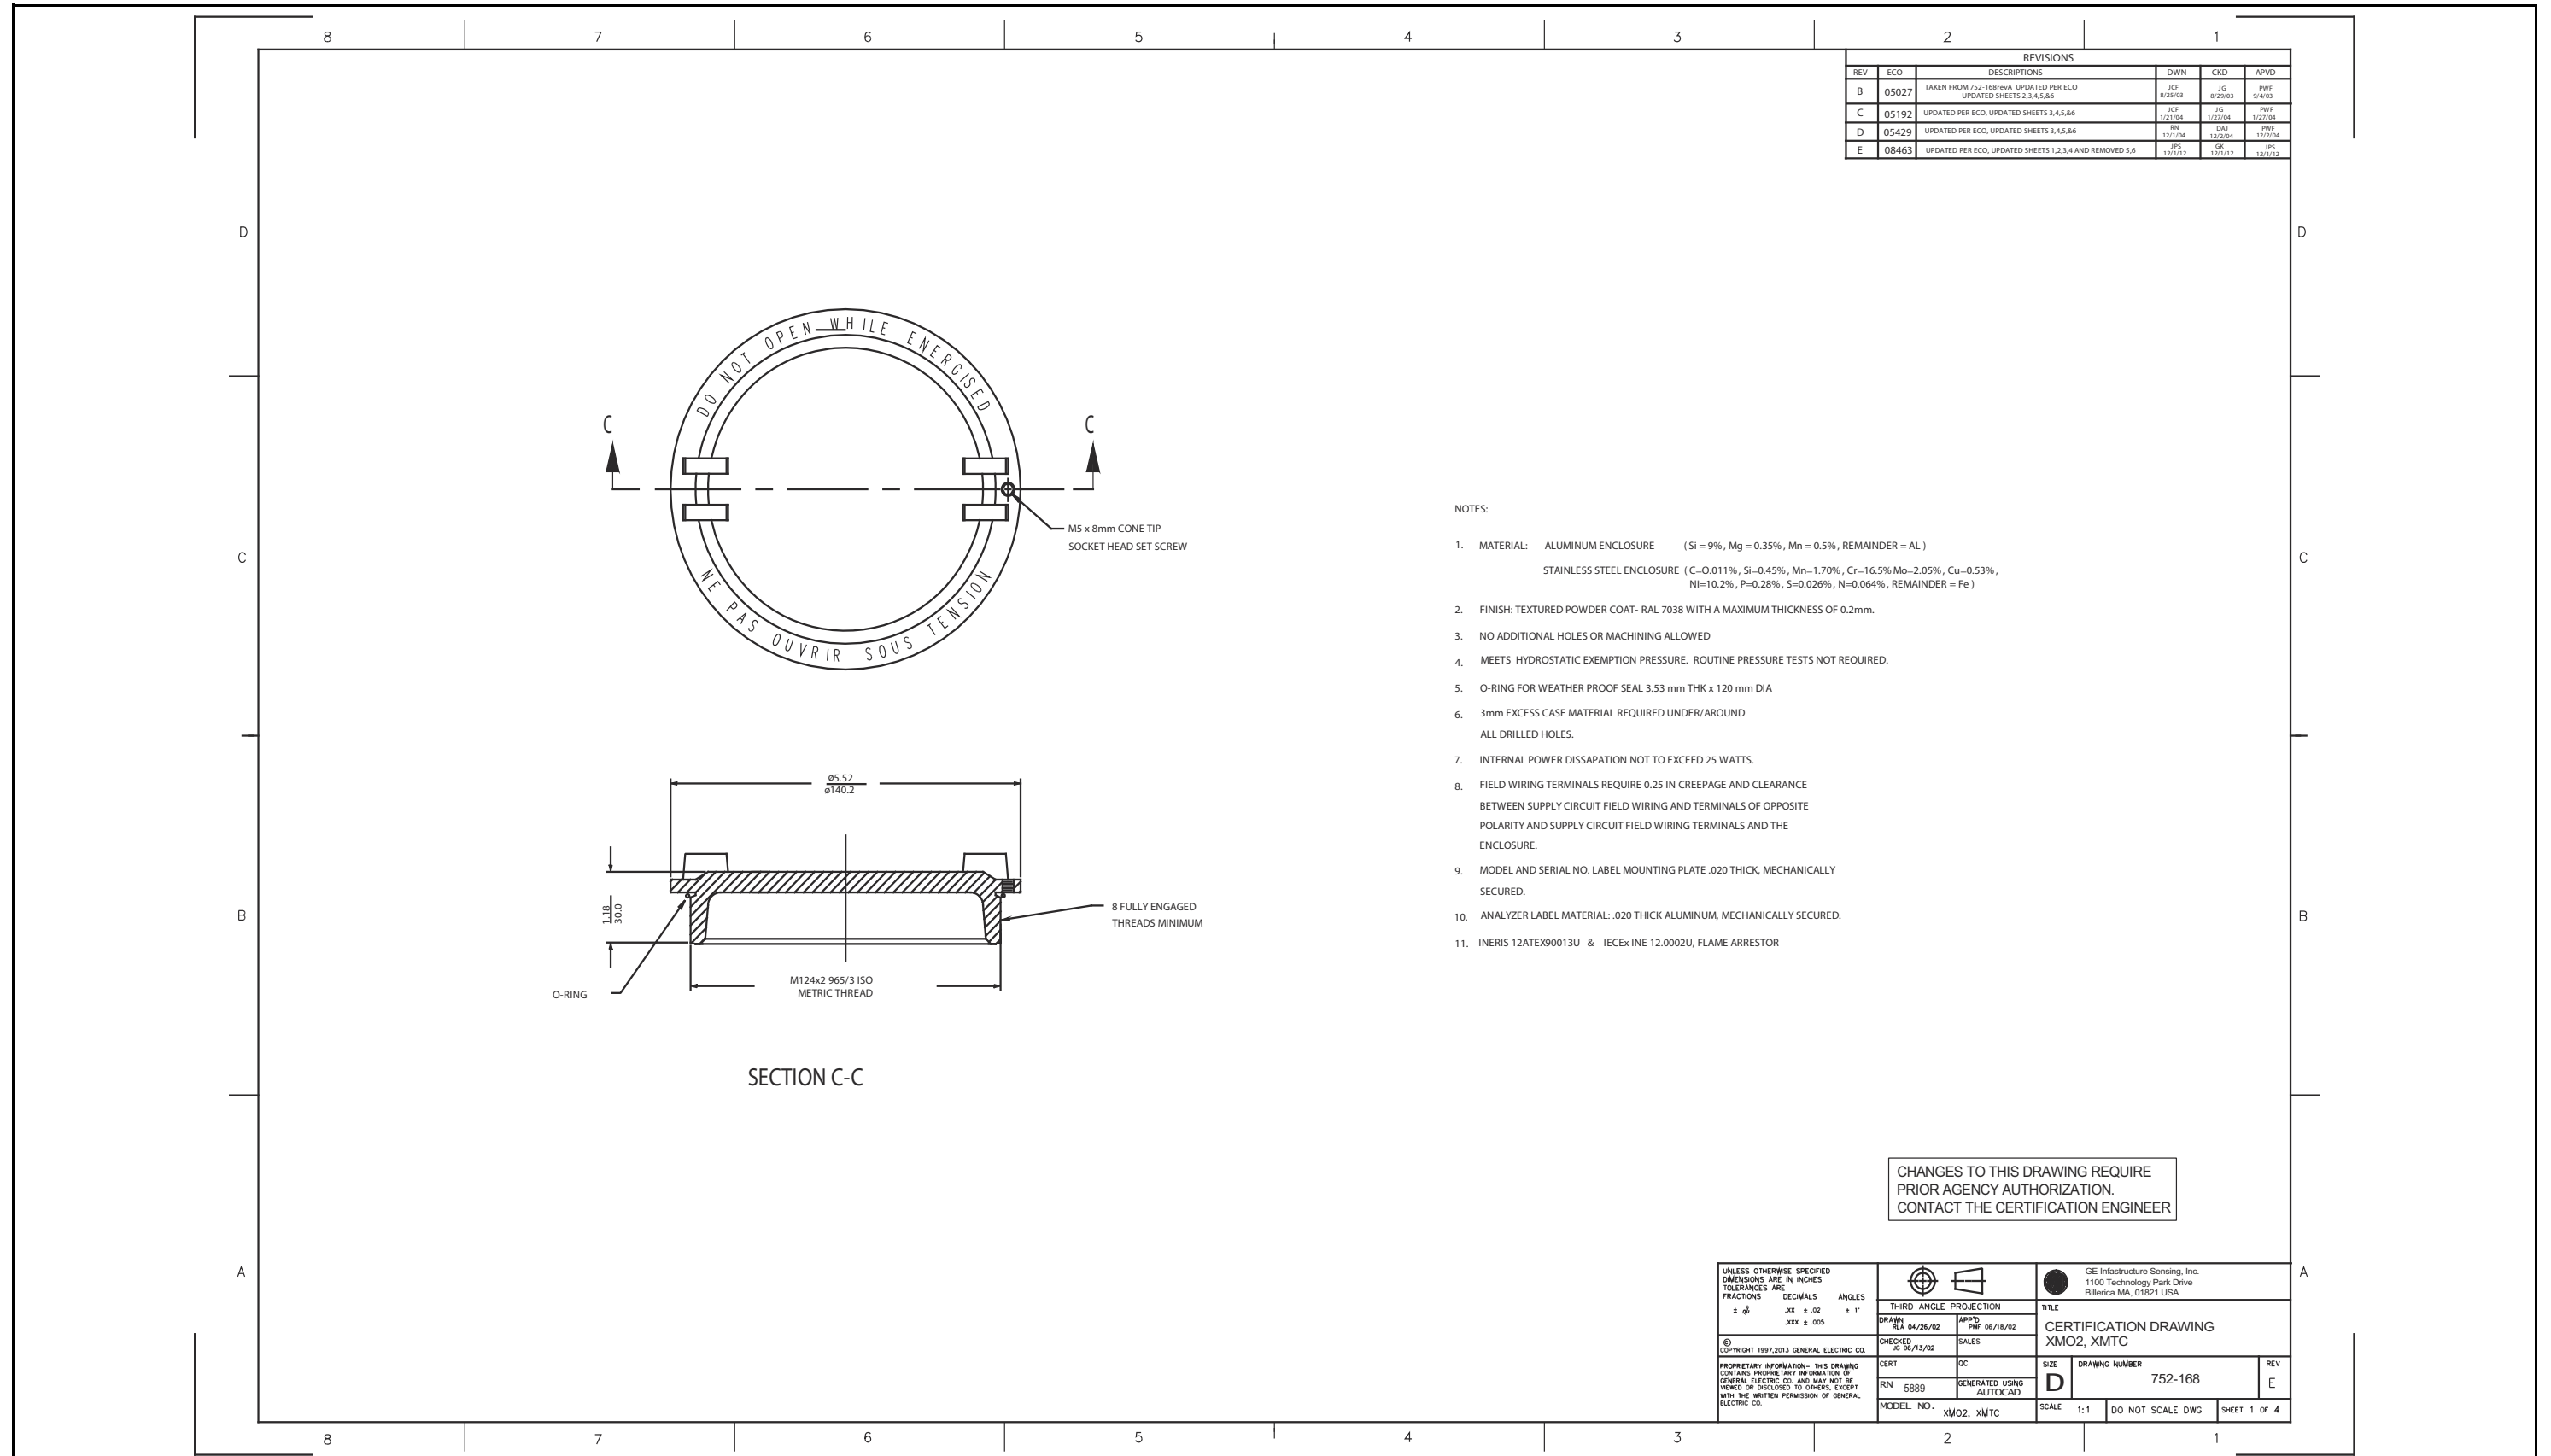

Figure 61: Certification Drawing (ref. dwg #752-168, Rev. E, SH1)
- Figure 61, "Certification Drawing (ref. dwg #752-168, Rev. E, SH1)" on page 71